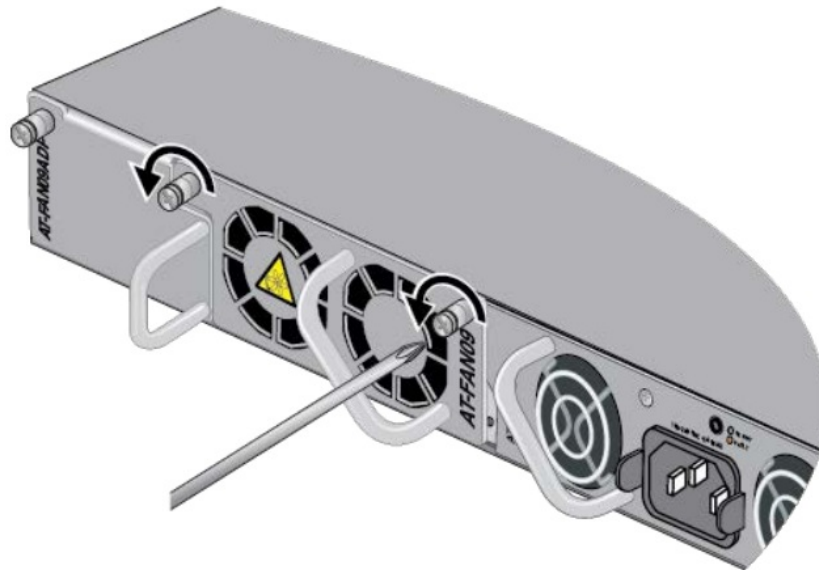

Figure 28. Loosening the Two Captive Screws on the AT-FAN09 Module
3. Loosen the two captive screws on the AT-FAN09 Fan Module with a cross-head screwdriver. Refer to Figure 28.